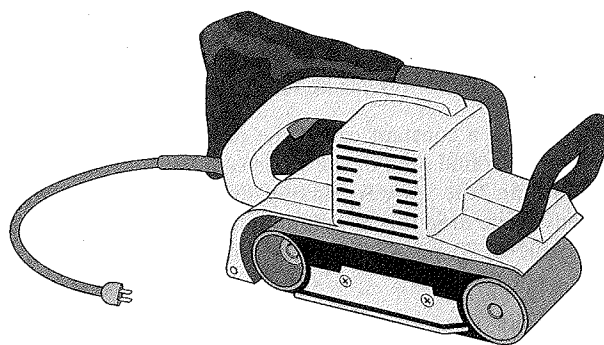

Fig. P2.36
2.36 The belt sander shown in Fig. P2.36 has a belt speed of 1500 ft/min. The coefficient of friction between the sander and a plywood surface being finished is 0.2. If the downward (normal) force on the sander is 15 lbf, determine (a) the power transmitted by the belt, in Btu/s and hp, and (b) the work done in one minute of sanding, in Btu.